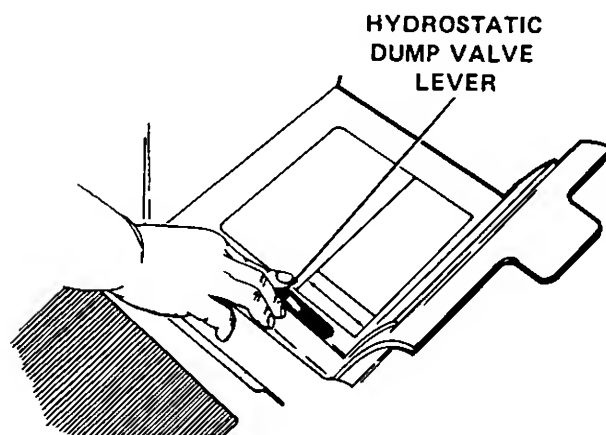

Figure 10.
1. To engage the dump valve (making the tractor free-wheeling), push the lever forward and hold in this position. (See Figure 10.)